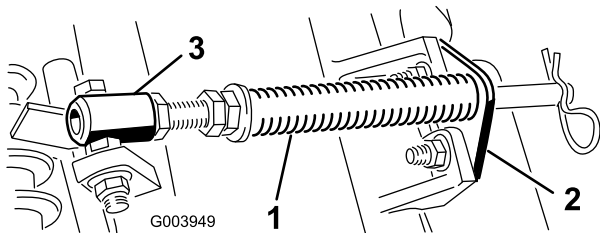

Figure 5
- A. Remove the 2 carriage bolts and nuts securing the rod bracket to the cutting unit tabs (Figure 5).
B. Remove the flange nut securing the spring tube bolt to the carrier frame tab (Figure 5) Remove the assembly.